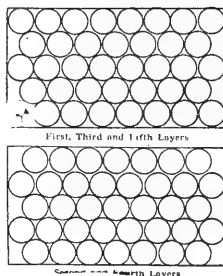

Fig. 15, Three-two pack, 188.
- 2. Placing of the second layer, Fig. 15.